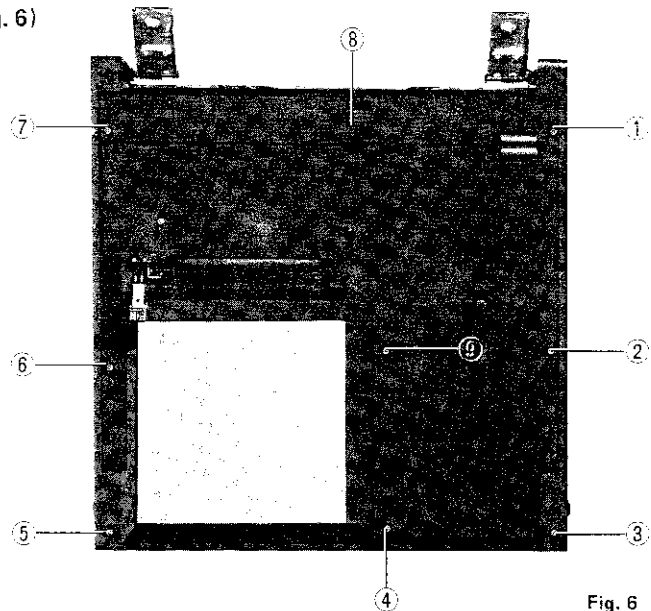

Fig. 6
5-(2) Removal of mechanism cover (Fig. 6)
2. Remove the securing black screws ①-③ of the mechanism cover.